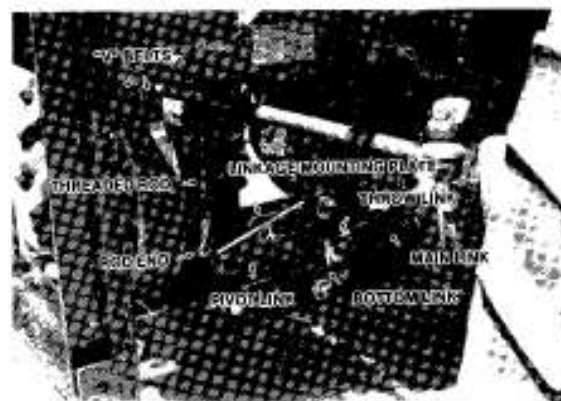

FIG. 6
- (f) Install matched set of two "V" belts over top and bottom sheaves. (see fig. 6). Install two 3/8" x 3" bolts into nuts welded to bearing bracket on each side of top sheave (see illustrated parts drawing, page 9 item 13).
- (g) Install linkage mounting plate to inside of frame rail using two 3/8" x 1" bolts. (See fig. 6). Install bushing (item 39, page 9) through hole on bottom pin as shown. Install bottom link (item 37) next to bushing using a plate washer and cotter pin. Install pivot link (item 33) on top pin using a plate washer & roll pin as shown.